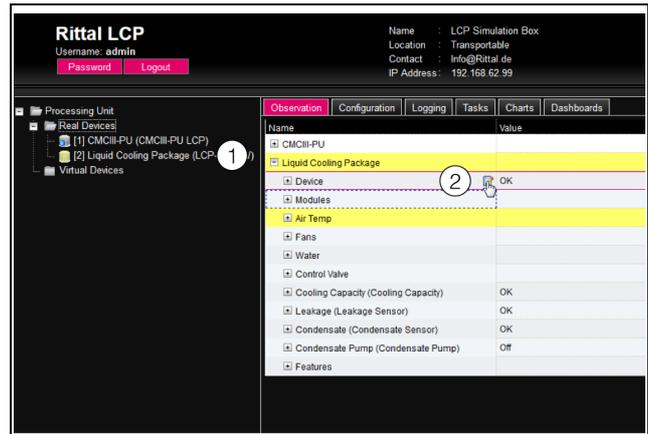

Fig. 114: Selecting multiple parameters
- Simply open the "Liquid Cooling Package" entry by clicking on the "plus" symbol in front of that entry (fig. 114, item 1).
- Position the mouse pointer at the end of the first column in the "Location" line (fig. 114, item 2). An "Edit" symbol will appear, and the mouse pointer will change to a "Hand" symbol.